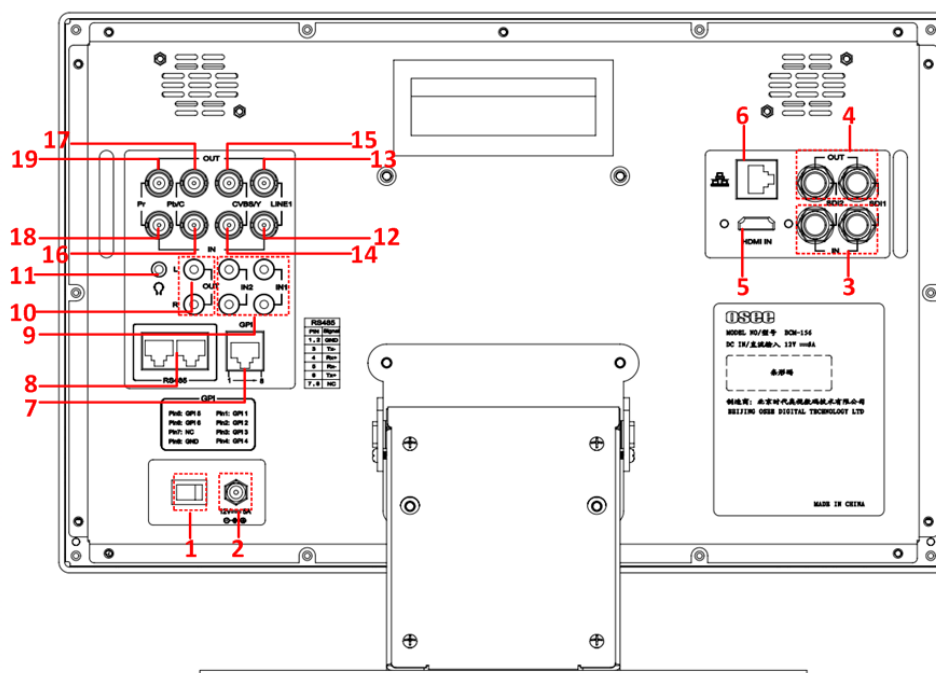

Figure 4.2-2 The Rear Panel of BCM-156 Monitor
- Especially, the interface types of BCM-156 are as the same as BCM-170's (BCM-215/BCM-230), but the arrangement is different from the BCM-170's (BCM-215/BCM-230). The arrangement of rear panel of BCM-156 is as shown in Figure 4.2-2, the numbers of the interfaces are the same.